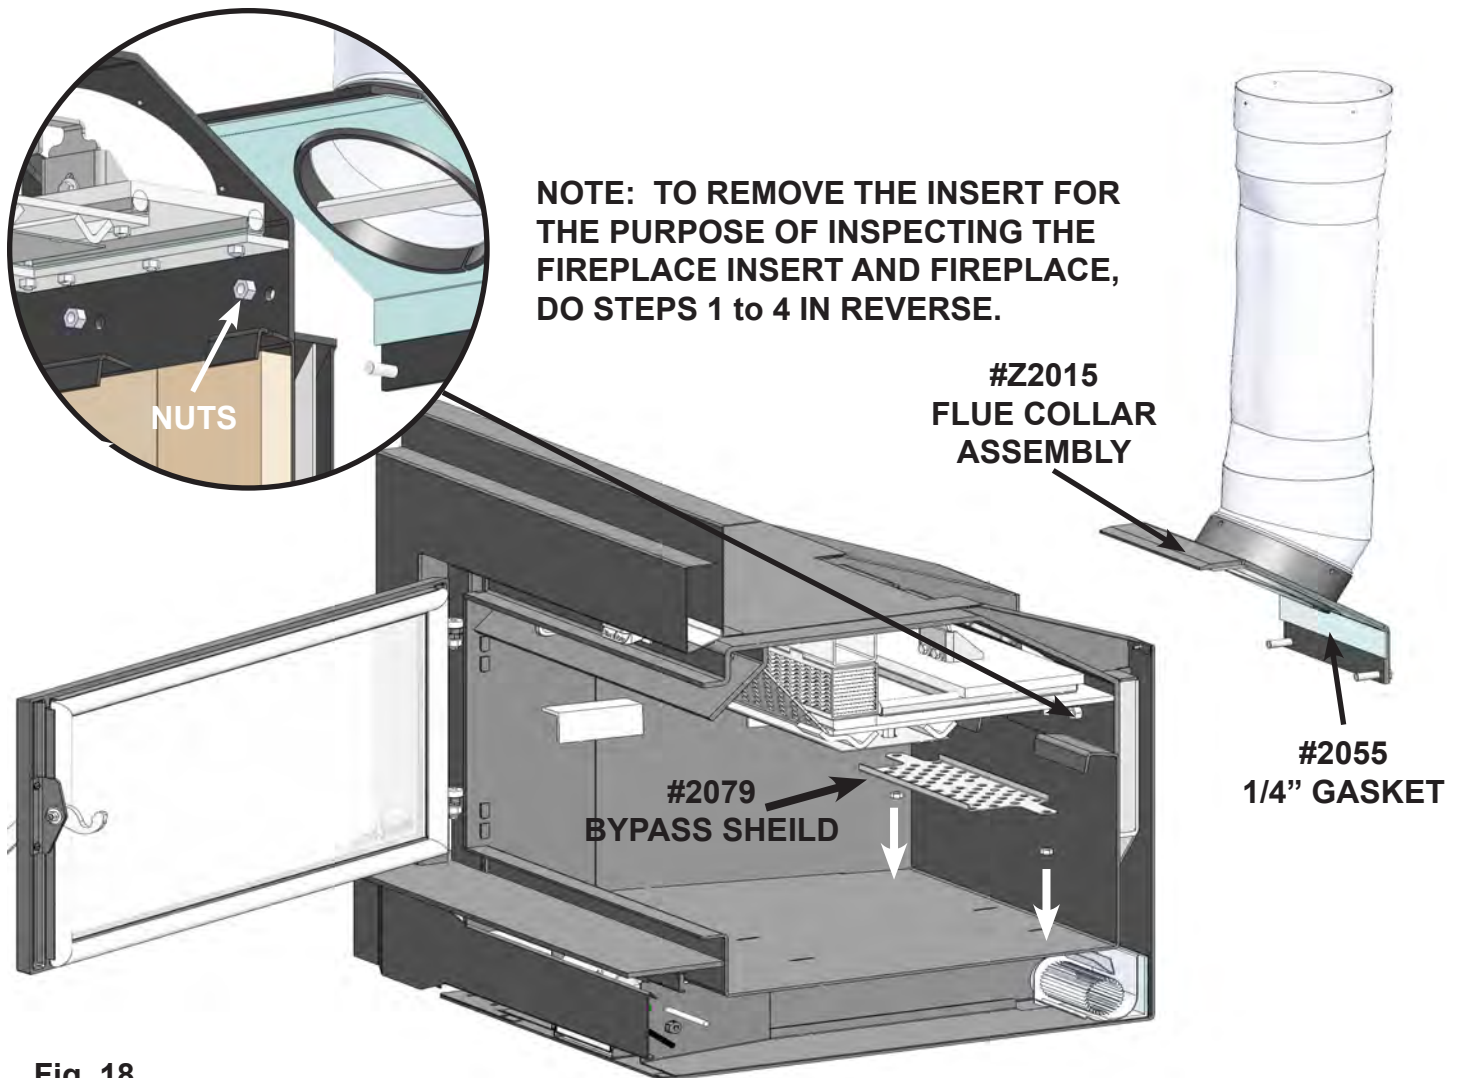

Fig. 18
3. Once sealed, fasten flue collar assembly to firebox using a 9/16" wrench, and the supplied stainless steel nuts (**Fig. 18**). Tighten flue adapter bolts evenly so a tight seal is maintained.